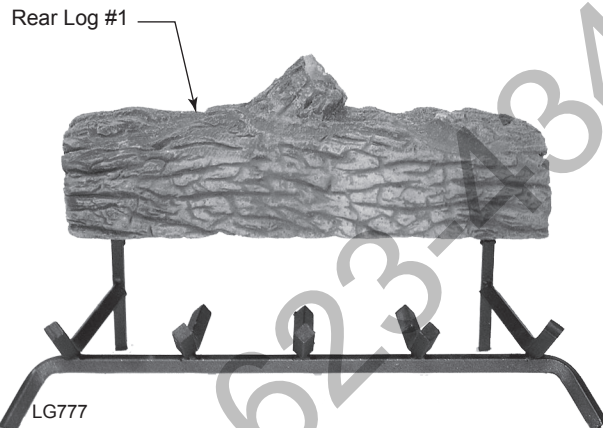

Figure 7 - Center Rear Log (#1) on Grate Bars
1. Center rear log #1 on grate bars and flush with rear of the grate. *Figure 7*